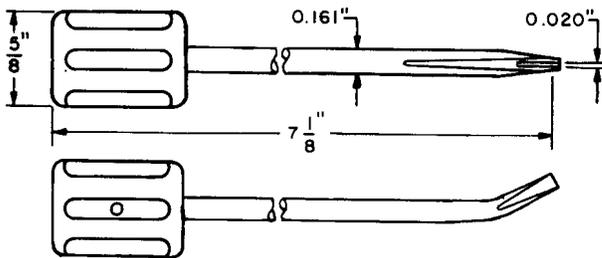

Fig. 17—583A Adjuster Tool
2.17 583A: The 583A tool (Fig. 17) is a spring adjuster used for adjusting panel multiple brushes. The 583A tool replaces the D-159890 tool.